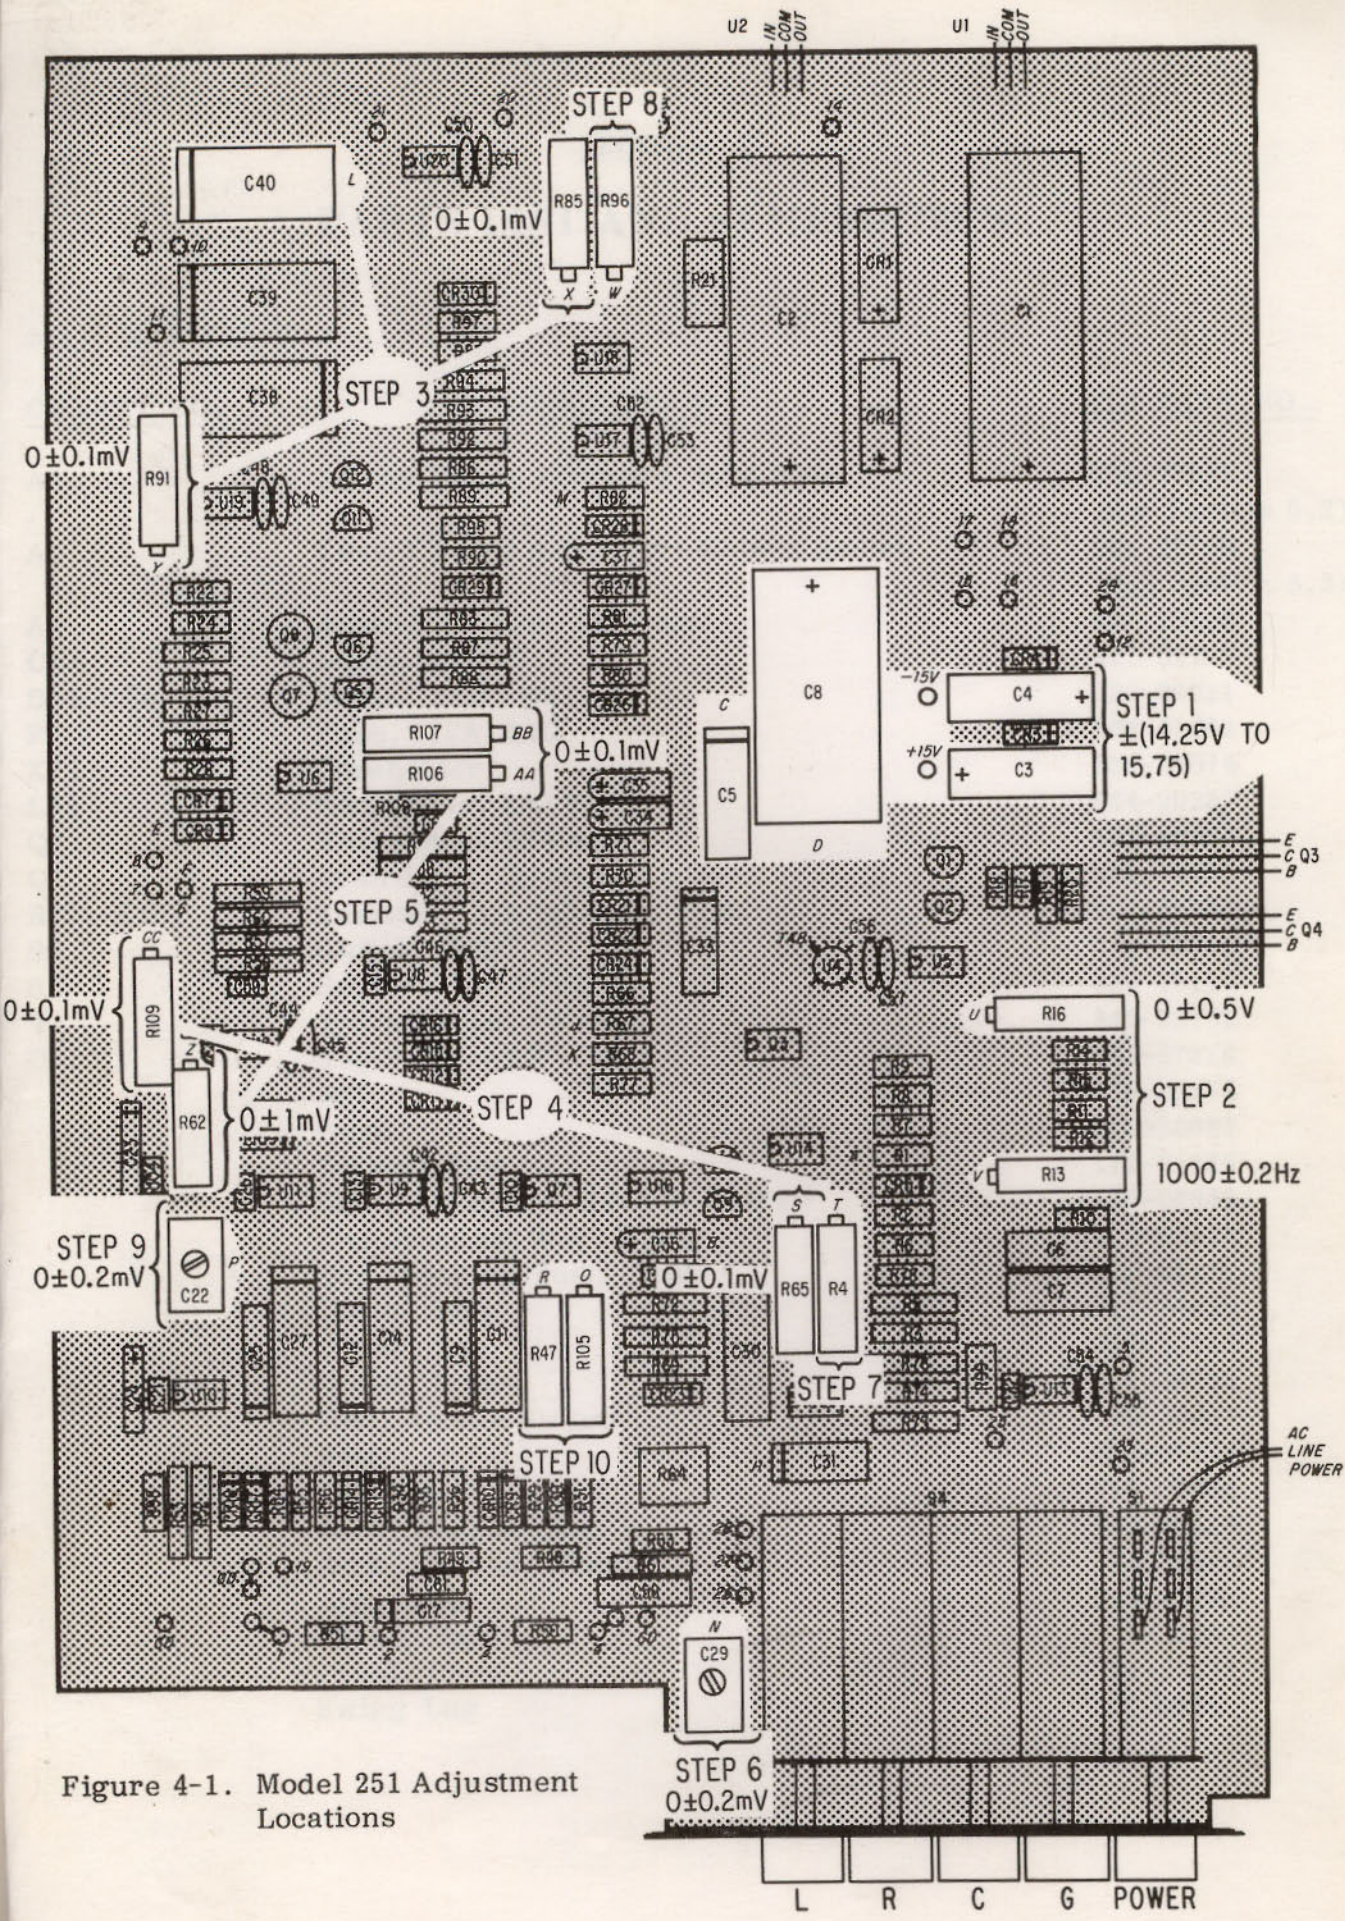

Figure 4-1. Model 251 Adjustment Locations
Refer to Figure 4-1 for adjustment locations. Note that position #1 on the RANGE switch is the most counter clockwise position for each function.
3. DPM PHASE-SENSITIVE DETECTOR ZERO TRIM. Setup - Press G function button and set RANGE switch to position 4 (CW). Connect DVM lo input to rear panel black OUTPUT terminal and DVM hi input to L point of C40. Adjustment - With UNKNOWN terminals open-circuited, adjust trimmer Y (R91) for 0 \pm 0.1 mV on DVM. Move hi DVM input to read OUTPUT terminal and adjust trimmer X (R85) for 0 \pm 0.1 mV on the DVM.
4. R, G PHASE TRIM. Setup - Set RANGE switch to position 4 (CW). Connect 1000 Ω standard to the UNKNOWN terminals using KELVIN KLIPS® test leads. Connect DVM input to rear panel OUTPUT terminals. Adjustment - Press L function button and note DVM reading. Press C function button and adjust trimmer CC (R109) until the same (± 0.1 mV) DVM reading results for both L and C selection. Next, adjust trimmer S (R65) for a DVM reading of $0V \pm 0.1$ mV for either L or C function. Repeat CC and S trim procedure if necessary.
5. L, R U8 COMMON MODE TRIM. Setup - Set RANGE switch to position 3 (CW) and short the KELVIN KLIPS test leads together. Connect DVM input to rear panel OUTPUT terminals. Adjustment - Press L function button and adjust trimmer AA (R106) for a DVM reading of $0V \pm 0.1$ mV. Press R button and adjust trimmer BB (R107) for a DVM reading of $0V \pm 0.1$ mV. Repeat AA and BB trim procedure if necessary. Connect DVM to point 22 on the circuit board. Adjust R trimmer Z (R62) for a DVM reading of $0V \pm 1$ mV.
6. L, C PHASE TRIM. Setup - Press G function button and set RANGE switch to position 4 (CW). Connect DVM input to rear panel OUTPUT terminals. Connect 100.0 nF standard capacitor ($D < 0.0002$) to the UNKNOWN terminals using KLIPS test leads. Adjustment - Adjust trimmer N (C29) for DVM reading of $0V \pm 0.2$ mV.
7. R, G FULL SCALE TRIM. Setup - Set RANGE switch to position 4 (CW). Connect 1000 Ω standard to the UNKNOWN terminals using KELVIN KLIPS test leads. Press R function button. Adjustment - Adjust trimmer T (R4) for a digital panel meter reading of 1000.
8. L, C FULL SCALE TRIM. Setup - Set RANGE switch to position 4 (CW). Connect a 100.0 nF standard capacitor to the UNKNOWN terminals using KELVIN KLIPS test leads. Press C function button. Adjustment - Adjust trimmer W (R96) for a digital panel meter reading of 100.0.
9. x10 AMPLIFIER PHASE TRIM. Setup - Press L function button and set RANGE switch to position 3 (CW). Connect DVM input to rear panel OUTPUT terminals. Connect 100 Ω composition type resistor to the UNKNOWN terminals using KELVIN KLIPS test leads. Adjustment - Adjust trimmer P (C22) for DVM reading of $0V \pm 0.2$ mV.
10. C, G ZERO TRIM. Setup - Set RANGE switch to position 7 (CW). With the KELVIN KLIPS test leads connected to the UNKNOWN terminals, space the clips at least two feet apart. Adjustment - Press C function button and adjust trimmer R (R47) for a panel meter reading of 00.0. Press G button and adjust trimmer O (R105) for a panel meter reading of 000. Repeat these adjustments if necessary.
11. RANGE 7 PHASE TRIM. Setup - Set RANGE switch to position 7 (CW). Connect a 100 pF capacitor ($D < 0.0002$) to the UNKNOWN terminals using the KELVIN KLIPS test leads. Adjustment - Press G function button and adjust trimmer C41 on the RANGE switch (not shown in Figure 4-1) for a panel meter reading of 000.